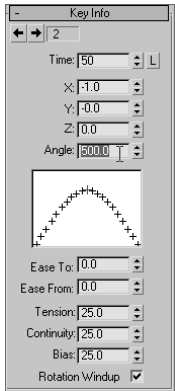

Figure 8.6
- The Angle parameter changes to a value of 117.643. The *X* parameter value reads -1.0 . The *X*, *Y*, and *Z* parameters represent the direction in the respective axes. The value -1 means the square is rotating backward. Don't get confused because this value is now in *X* and not *Z*. Remember, you gave up the individual controls for *X*, *Y*, and *Z* when you changed from the Euler XYZ controller. While at this second keyframe, click on Rotation Windup at the bottom of the rollout, and enter the value **500** for Angle. You must first turn on Rotation Windup to enter 500 for the Angle (Figure 8.6).